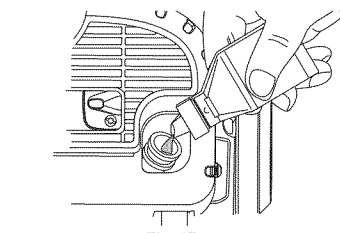

Fig. 17
4. Refill the crankcase with 2.03 fluid ounce (60 ml) of SAE 30 SF, SG, SH oil (Fig. 17).